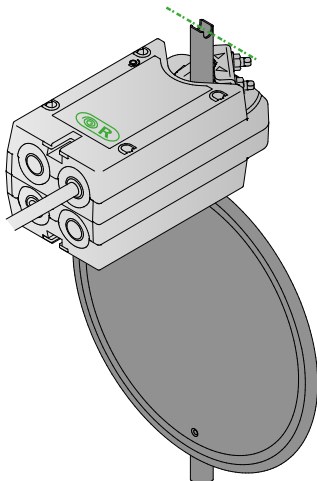

Figure 9. Standard installation (NC), damper closed with jumper to the right.
Positioning of damper blade and locking strip, see figures 9 and 10.
1. Standard installation of damper motor (NC ©R) Damper blade installed in closed position, see Figure 9.